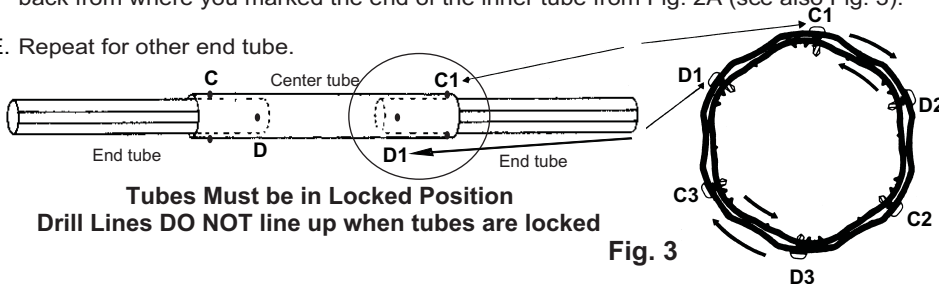

Fig. 3
B. Lock tubes together by rotating the center tube in the opposite direction to end tube. **HOLD TUBES LOCKED WHILE YOU INSTALL FIRST SELF-DRILLING SCREW ON A DRILL LINE, 1" (2.5 cm) back from end of center tube at Location "C1"** (see Fig. 3 & 4).
C. Place 2 more self-drilling screws at Location "C2" & "C3" - 1 screw at every second drill line around tubes (see Fig. 3).
D. At "D" locations install 3 screws around the center tube at every second drill line, 1" (2.5 cm) back from where you marked the end of the inner tube from Fig. 2A (see also Fig. 3).